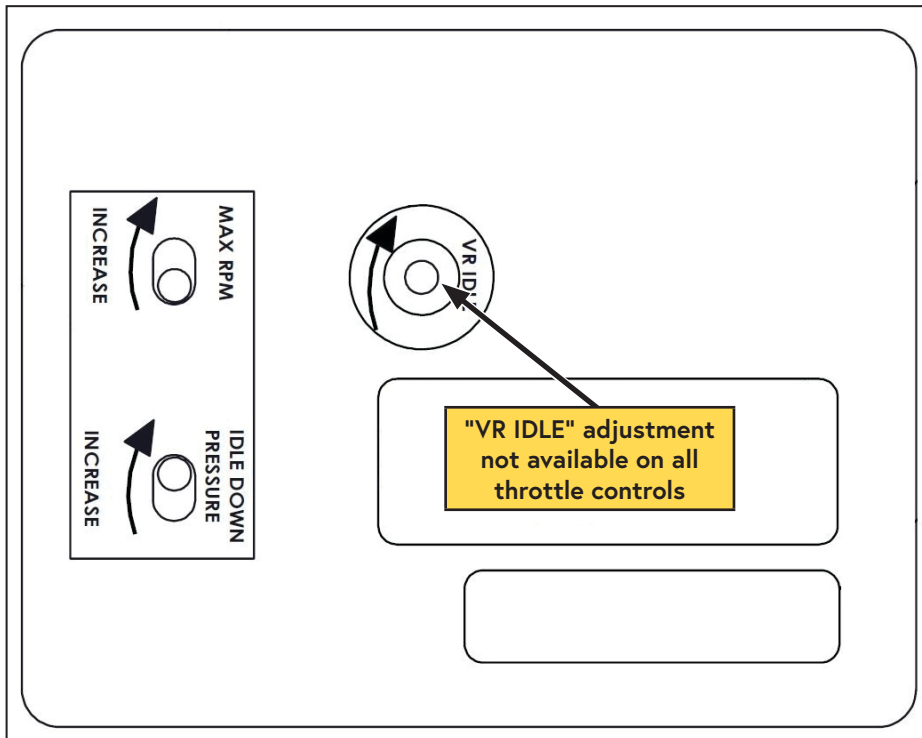

Figure 19 — Analog throttle control adjustments
Turn the screws counterclockwise to decrease engine speed or IDP, or clockwise to increase engine speed or IDP. The throttle control uses 20 turn adjustment screws, turning the screws past this point will not damage the throttle control (Figure 19).
- ☐ Turn the "MAX RPM" adjustment screw clockwise to increase engine speed and counterclockwise to decrease engine speed (Figure 19).